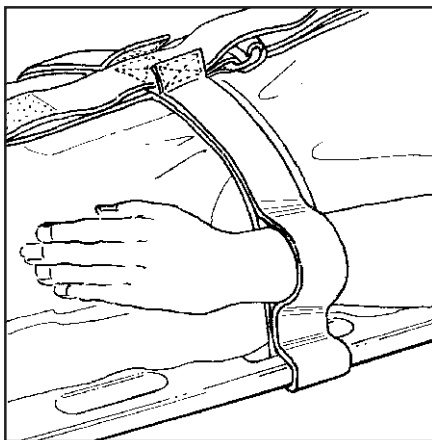

Figure 6 - Wrists Secured by Pelvic Strap
- At his/her side, using the pelvic strap (Figure 6).